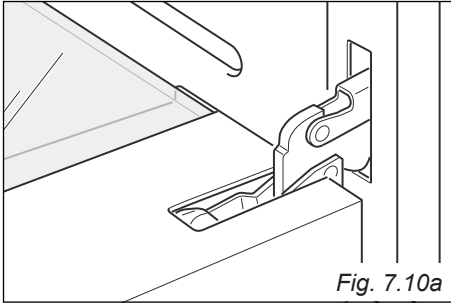

Fig. 7.10a
- Open the door to the full extent (fig. 7.10a).